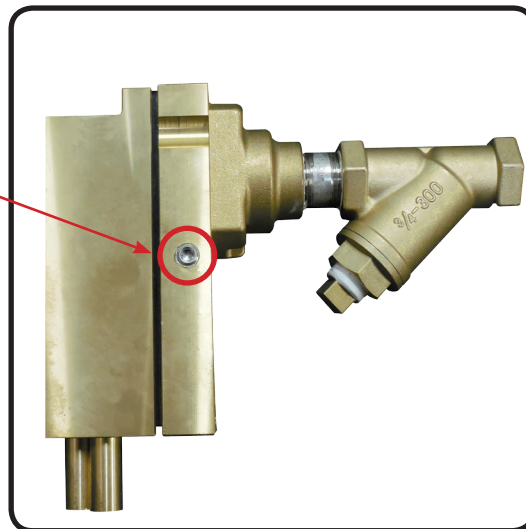

Figure 3
2. Verify that your AirPrime unit has the required 1/8" NPT port as shown in **Figure 3** on **Page 1**.